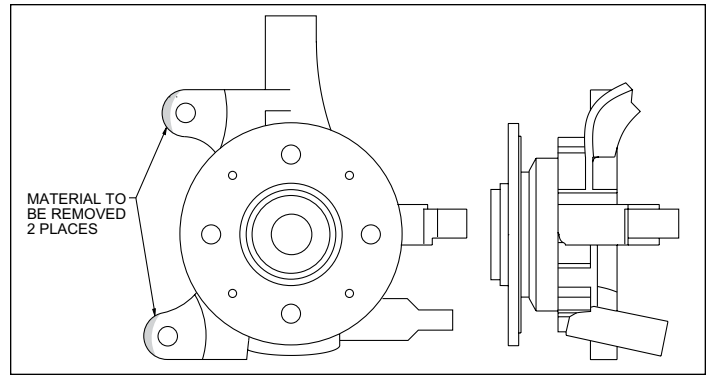

Figure 3. Spindle Modifications
- There are spindle modifications that need to be performed before installation of the Wilwood caliper bracket. Please reference figure 3, page 4. These modifications should be performed by a qualified machinist.
- These modifications should be performed by a qualified machinist. Refer to figure 3, right. Only one view of the spindle is shown, but the modifications need to be performed on both spindles.